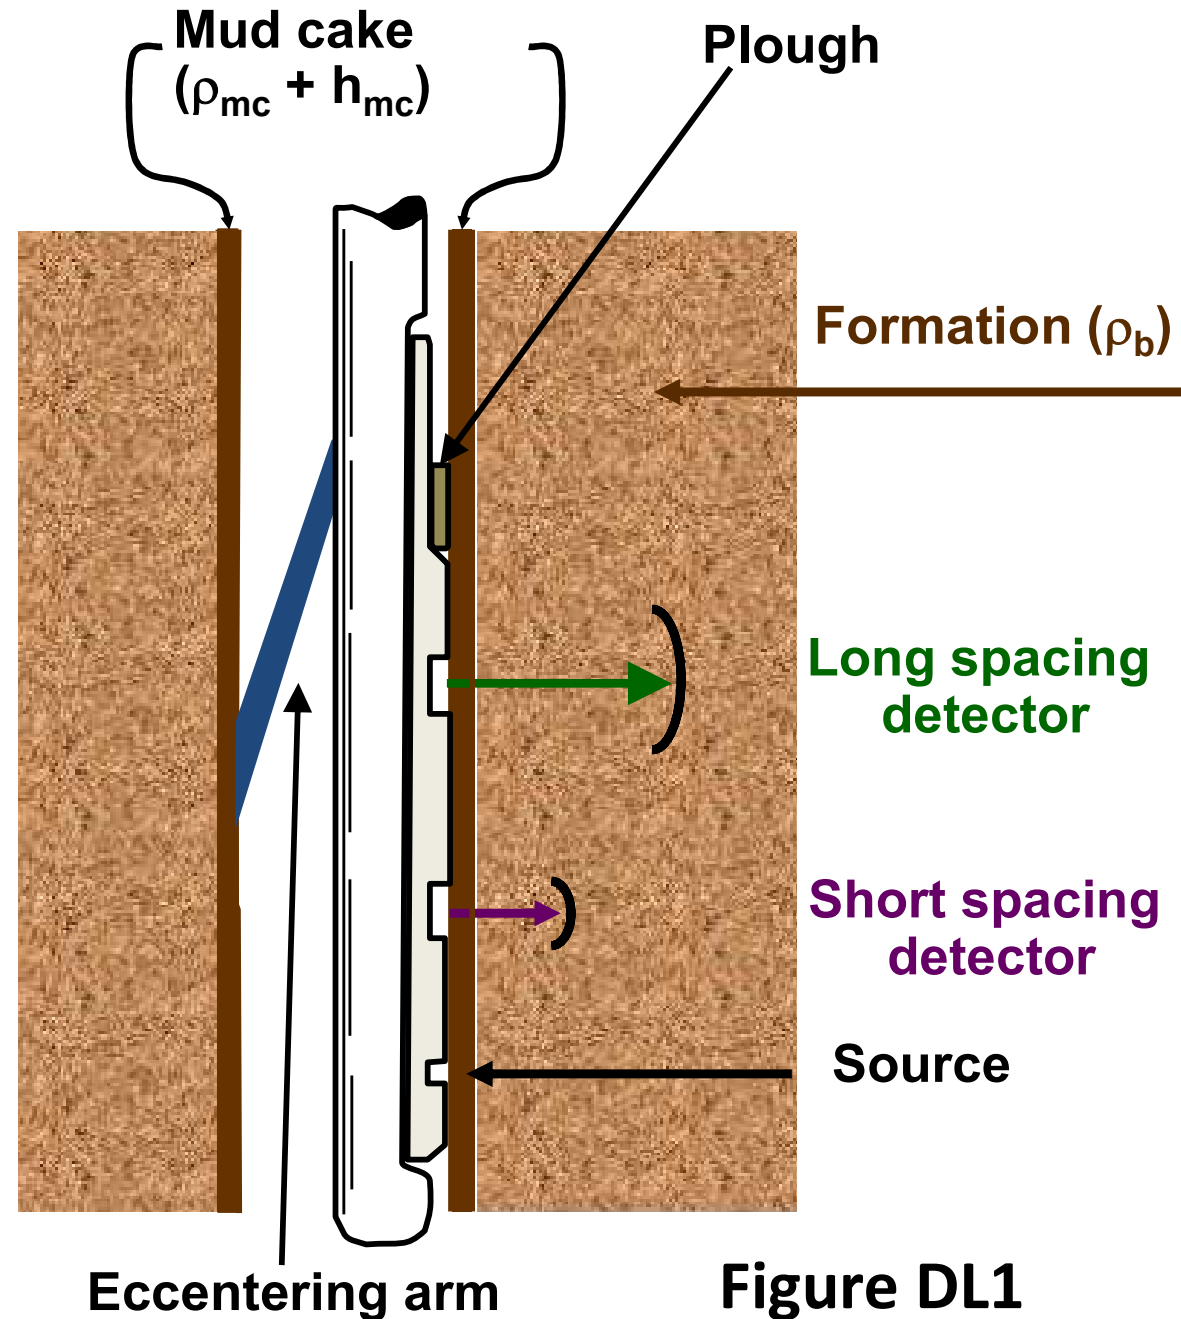

Figure DL1
- The tool is pressed against one side of the borehole using a servo-operated arm with a force of 800 pounds force. Under this pressure and the pulling power of the wireline winch the plough can make a deep impression in the mudcake. The large eccentricing force also means that there is much wear of the surface of the tool that is pressed against the borehole wall. The heavy shielding also doubles as a skid and a wear plate that protects the source and detectors and can be replaced easily and cheaply when worn down (see Figure DL1).